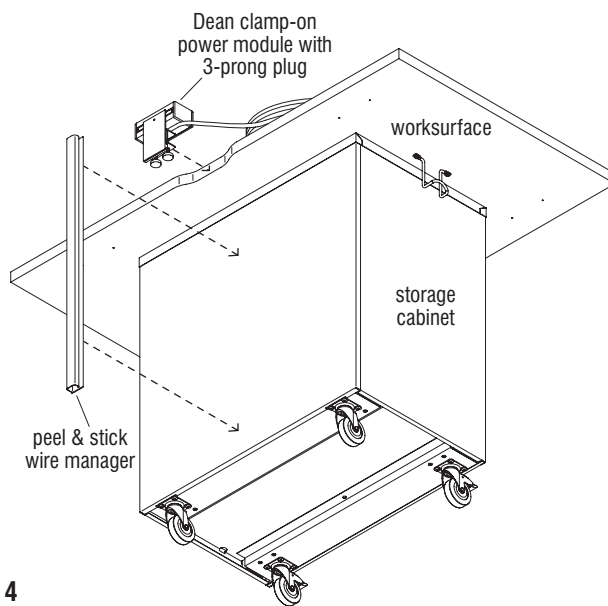

Figure 4
4. Position the Dean clamp-on power module into the notched out location on the back edge of the worksurface as illustrated (Figure 4).